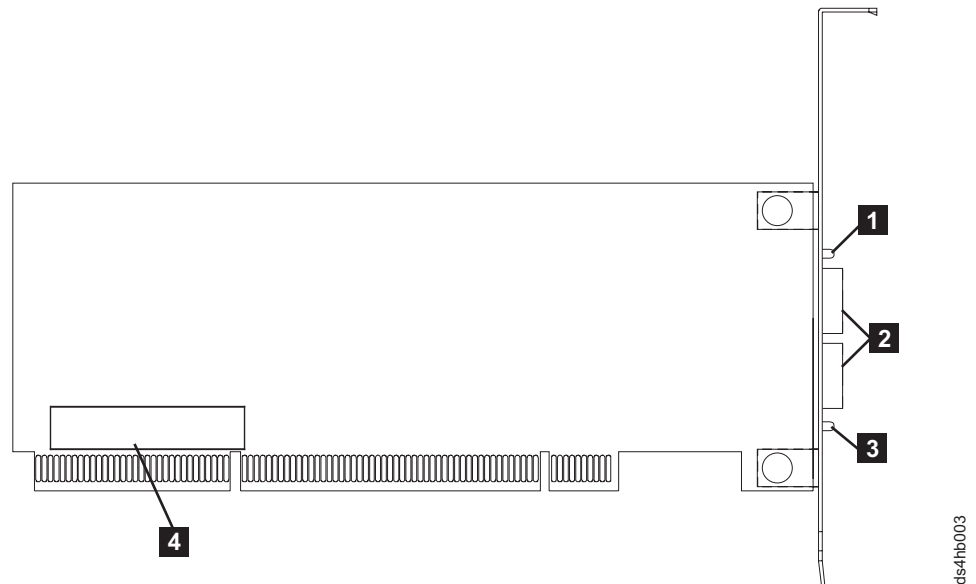

Figure 1. FC 4Gbps PCI-X Adapter serial number label
- Write down the serial number of the FC 4Gbps PCI-X Adapter. Each adapter has a unique serial number. If the nonvolatile random access memory (NVRAM) (also referred to as NOVRAM) is damaged, the system prompts you for the FC 4Gbps PCI-X Adapter serial number. Figure 1 on page 3 shows the serial number label location.